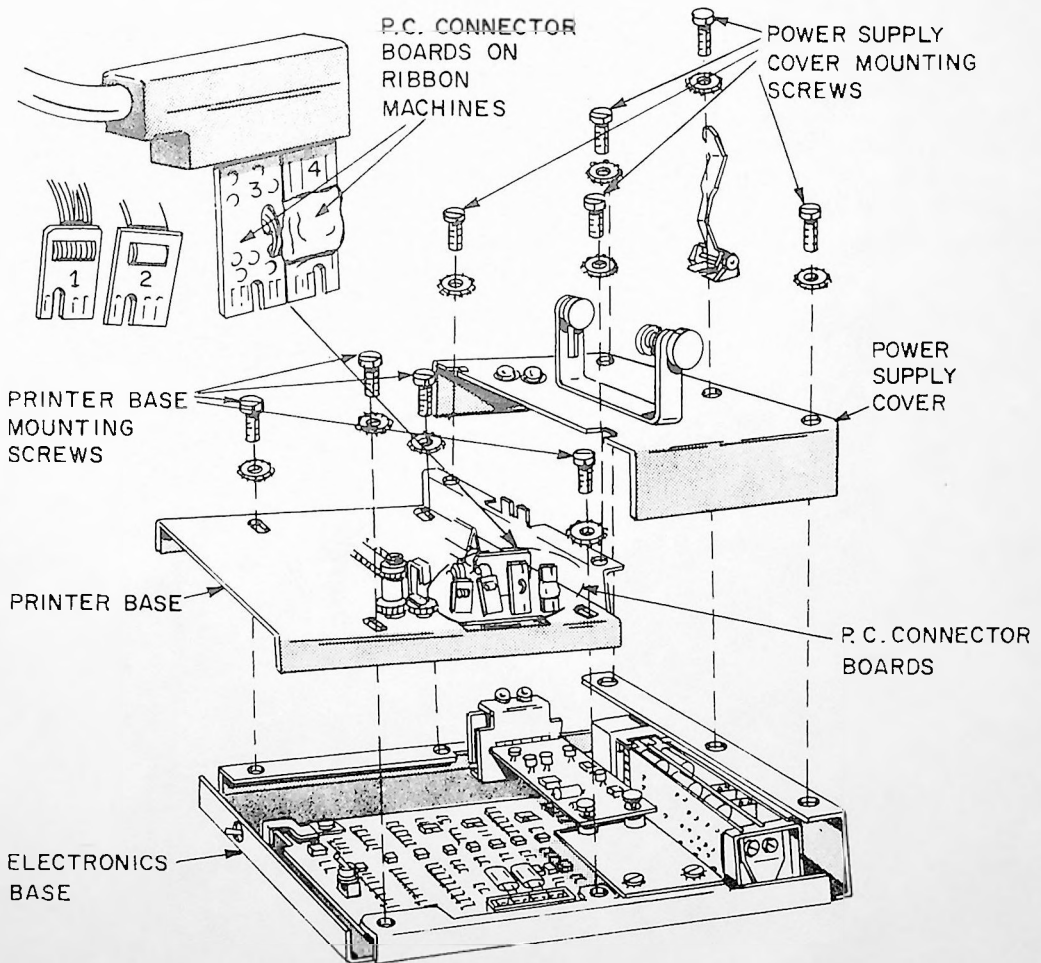
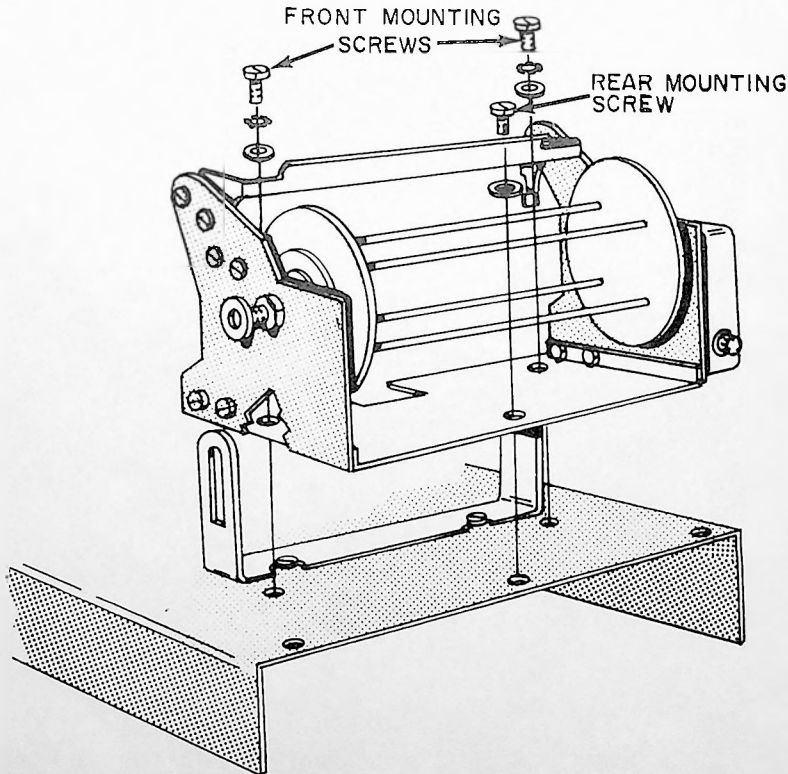

Figure 2-16. Removal of Power Supply Cover and Printer Base
Figure 2-17. Paperwinder Installation Diagram
- (1) Remove the Typing Unit Cover as directed in Sub-paragraph "a" above.
- (2) Note the orientation of—and tag—the four P.C. Connector Boards to the right of the typing unit. Consult Figure 2-16.
- (3) Disconnect the four P.C. Connector Boards at the right side of the Typing Unit by simply pulling upward on each of them. [NOTE: Machines having ribbon mechanisms have an additional connector attached to the top of two of the P.C. Connector Boards. This connector can be removed together with the other boards, and must be re-installed as shown in Figure 2-16 when re-assembling unit.]
Consult Figure 2-16 as you Proceed.
- (3) Remove and discard the three machine screws along the top rear edge of the Power Supply Cover. See Figure 2-16.
- (4) Position the Paperwinder Mounting Bracket over the Power Supply Cover so all three mounting holes are properly aligned.
- (5) Using the two 8-32 x 15/16 machine screws, No. 8 lockwashers, and No. 8 flatwashers supplied with the Paperwinder Assembly, temporarily secure the front of the Paperwinder mounting bracket to the Power Supply Cover. See Figure 2-17.
- (6) Using the 6-32 x 3/8 pan-head machine screw and large flat washer supplied with the Paperwinder Assembly, secure the rear center position of the Paperwinder mounting bracket to the Power Supply Cover. See Figure 2-17.
- (7) Assemble the Paperwinder Take-up Reel by inserting the tapered ends of each pair of rods into their respective holes in the opposite reel disc.
- (8) Pull outward on the spring-loaded knob and hold it firmly while seating the motor drive shaft into the center of the left hub of the Take-up Reel and aligning the right hub of the reel with the spindle in the spring-loaded knob. Release the knob.
- (9) Follow procedure outlined in Paragraph 3-2b for loading paper roll into machine.
- (10) If required, slide the Paper Roll Bracket either to the left or right (loosen its two mounting screws using an offset common-head screwdriver) until the left edge of the paper roll is 1/4 or 7/32 of an inch from the left edge of the window opening.
- (11) Adjust the Paperwinder Assembly until approximately 1/32-inch visual clearance exists between the inside face of the right-hand reel disc and the right edge of the paper roll.
- (12) Tighten the three mounting screws to permanently secure the Paperwinder Assembly to the Teleprinter Power Supply Cover.
- (13) Again consult Paragraph 3-2b (steps 8-11) of Section 3 for procedure for threading paper into Paperwinder.
- (14) Plug the Paperwinder Power Cord into an AC power outlet of the proper voltage (Check tag attached to power cord) and frequency. Turn both Paperwinder and Teleprinter Power Switches to the ON position.